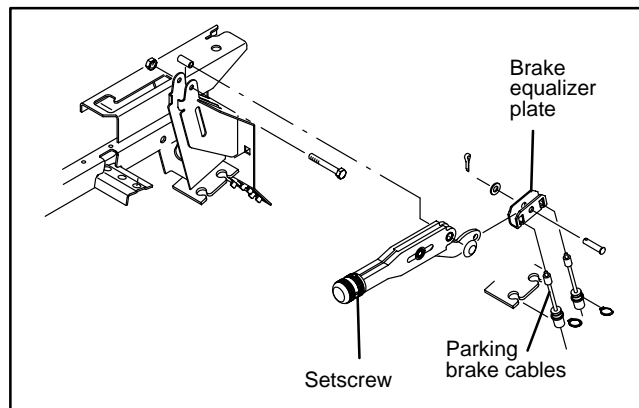

Figure 14
1. Loosen set screw on parking brake control lever knob (Fig. 14). Turn knob on parking brake lever counter-clockwise all the way to loosen cable adjustment.
6. Remove brake equalizer plate from parking brake control lever (Fig. 14).